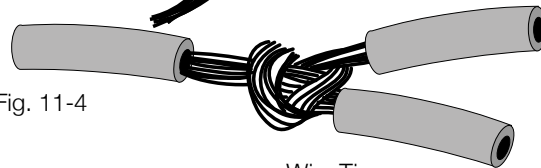

Fig. 11-4
- C. Insert the wire from the fused link into the spread wire in the vehicle. Wrap around the wire several times. See Fig. 11-4